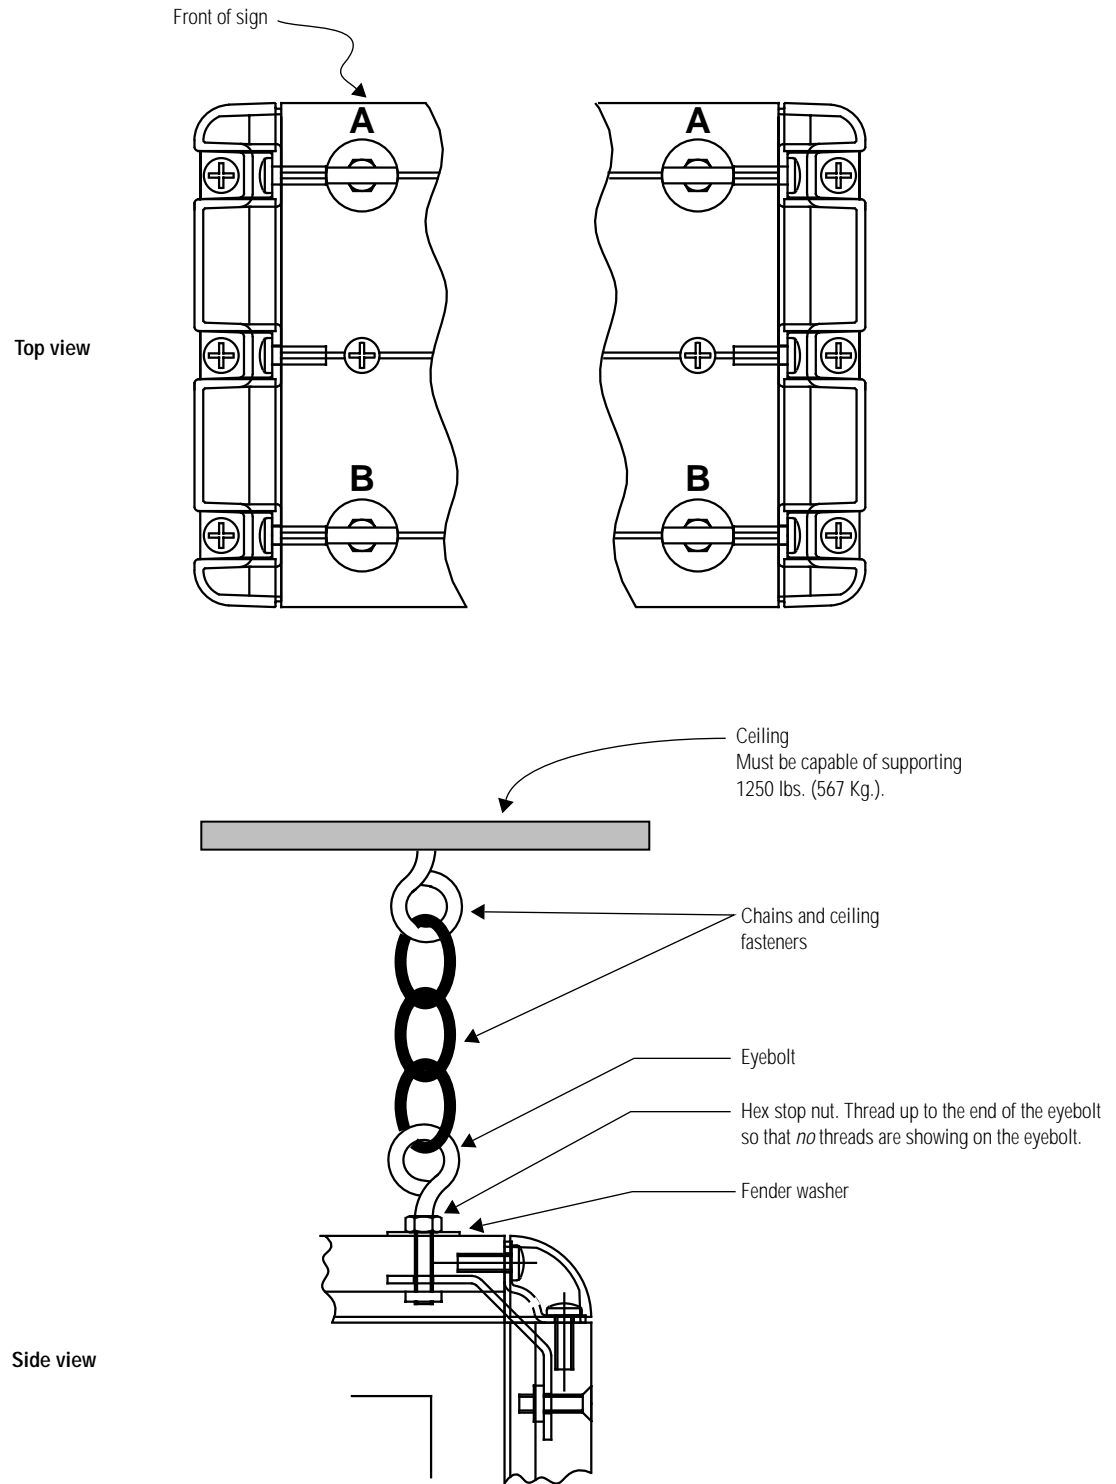

Figure 5: Suspending the sign
- Remove the screws labeled “A” and “B” and attach the four eyebolts (see Figure 5):